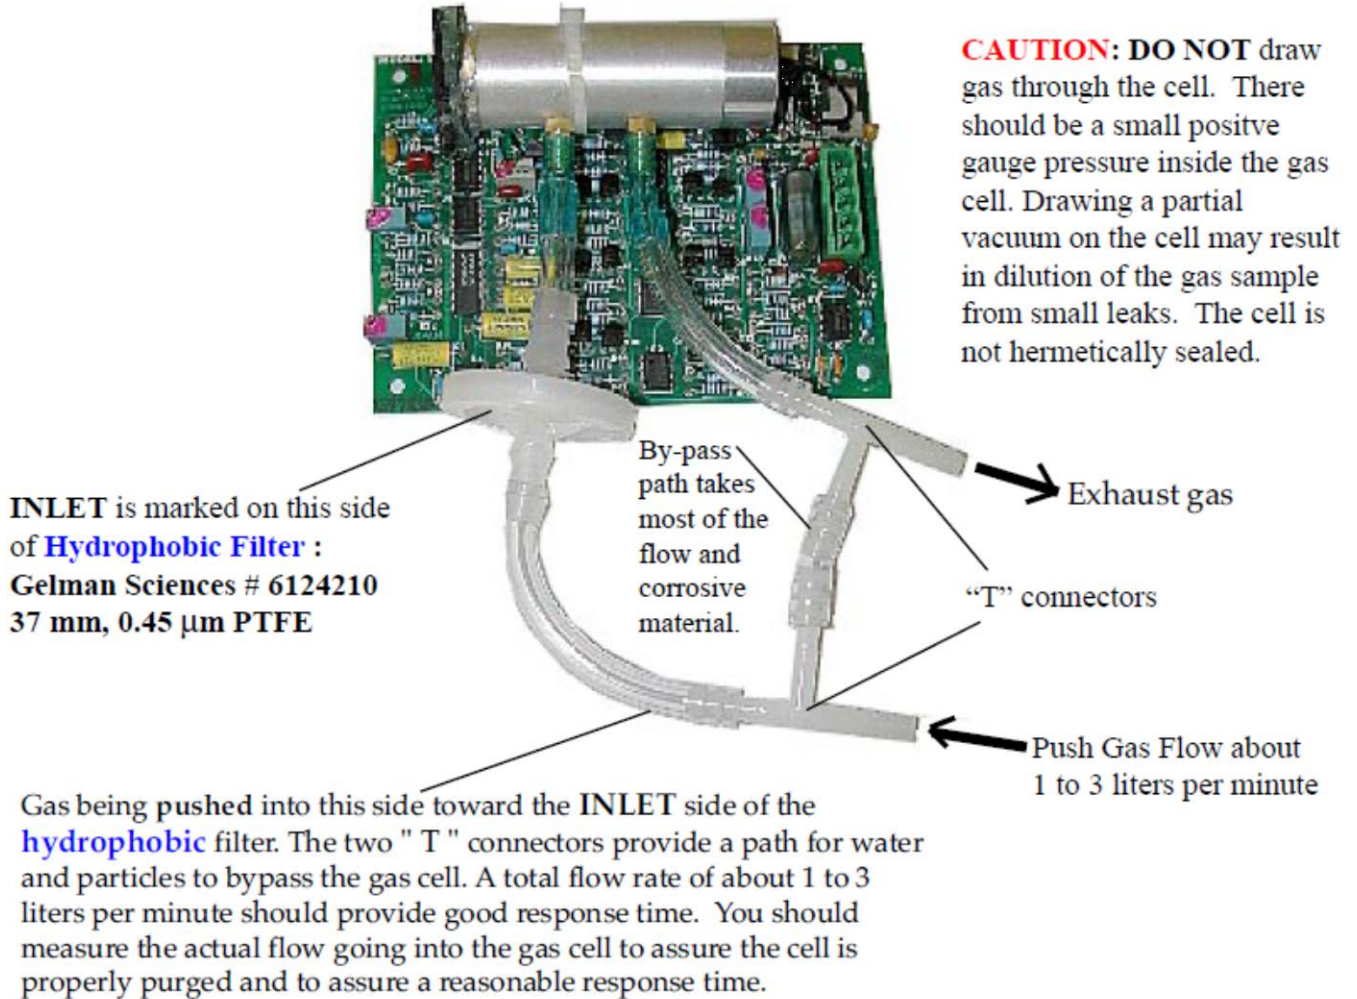

FIGURE 8
3. See Figure 8. This setup improves **Zero Stability** and **sensor life**.